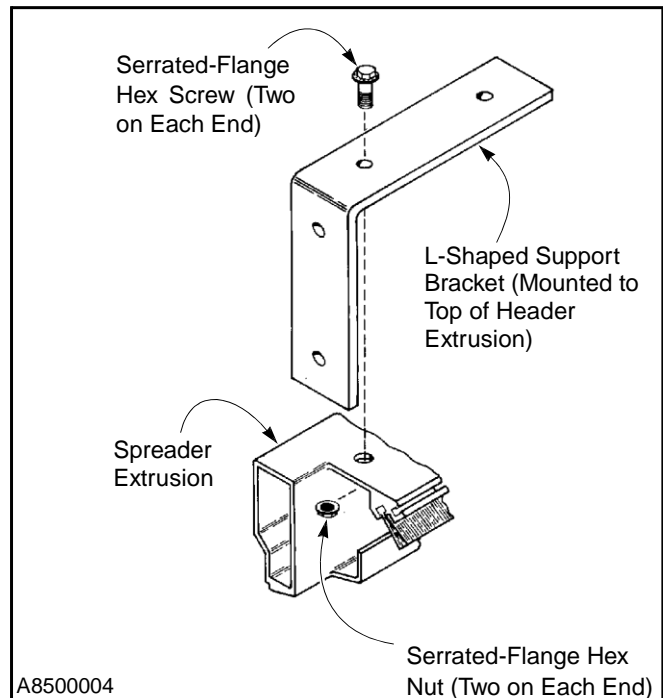

Figure 14
- Attach an L-shaped support bracket to each end of the spreader extrusion using two 3/8-16 x 1 1/4-in. serrated-flange hex screws and nuts. The brackets and mounting hardware were shipped in the small parts carton. (See Figure 14.)